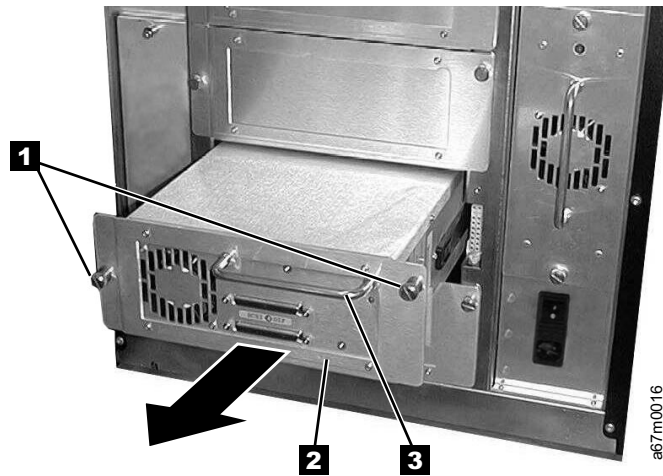

Figure 391. Removing the drive sled
5. Loosen the two captive thumbscrews (see **1** in Figure 391) on the drive sled **2** and slide the drive sled out by using the handle **3**.
16. Slide the drive sled into slot you removed it from using the handle **3** (see Figure 391 on page 281). Tighten the two captive thumbscrews **1** on the drive sled **2**.